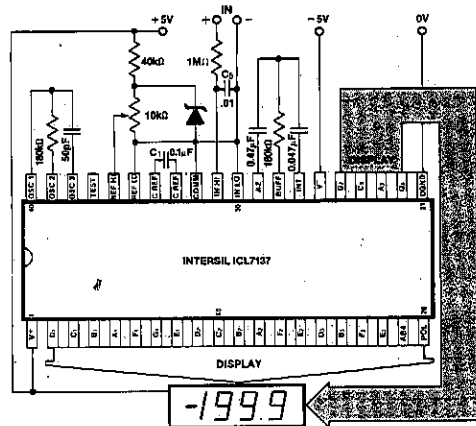

Figure 2. Clock Frequency 48kHz (3 readings/sec)
**Note 5:** 48kHz oscillator, Figure 2, increases current by 35µA (typ).